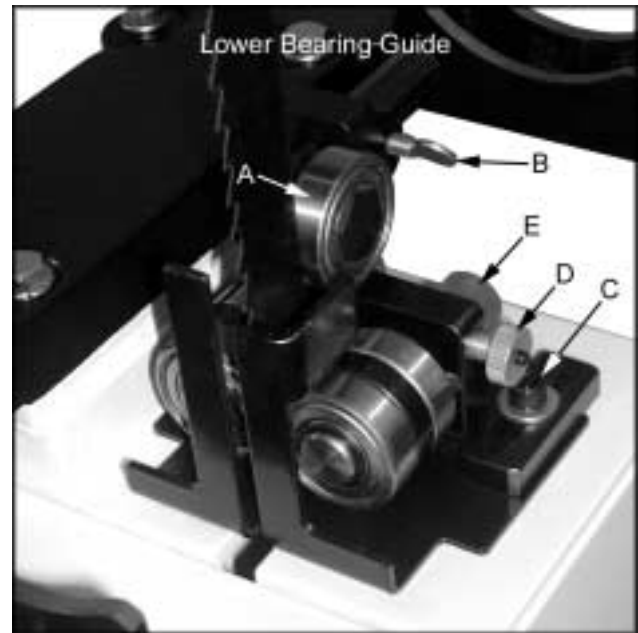

Fig. 4
3. Adjust the back-up bearing (A, Fig. 4) so that it is 0.003" away from the back of the blade, about the thickness of a piece of paper. To make this adjustment loosen thumb screw (B, Fig. 4) and slide the bearing, and bearing post into position. Tighten thumb screw.
4. Loosen the socket head cap screw (C, Fig. 4) and slide the bearing assembly until the bearing guides rest just behind the gullet of the blade teeth. You may need to readjust the back-up bearing. Tighten socket head cap screw.
5. Loosen the thumb screw (D, Fig. 4) and turn adjusting screw (E, Fig. 4) clockwise or counter-clockwise until the bearing is 0.003" away from the side of the blade, about the thickness of a piece of paper.
7. Tighten thumb screw (D, Fig. 4). Check to make sure the adjustments have not changed and the bearing guides do not pinch the blade.